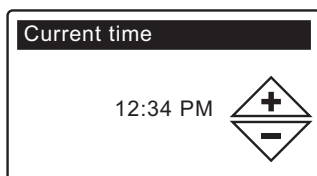

FIG. 18
5. **CURRENT TIME** Press the DOWN (▼) or UP (▲) buttons to set the current time (See Figure 18). Hold the button down to rapidly advance. Be sure that AM or PM is correct. If the system units were set to metric in Step 3, the clock will be in 24-hour format.